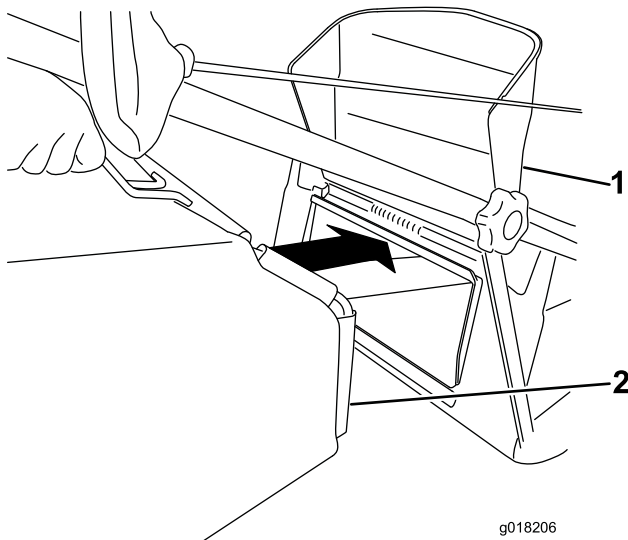

Figure 14
3. Hook the grass bag into position (Figure 14).